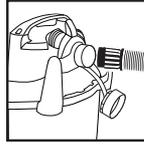

FIGURE 36
53. Your vacuum can be used as a powerful blower. To use your unit as a blower, unscrew blower port cover located on the backside of the tank cover. Clear hose of any obstructions. Insert machine hose end with locking nut into blower port and tighten locking-nut. **FIGURE 36.** Do not over-tighten. Caution should be used when using as a blower due to the powerful force of air when using certain attachments.